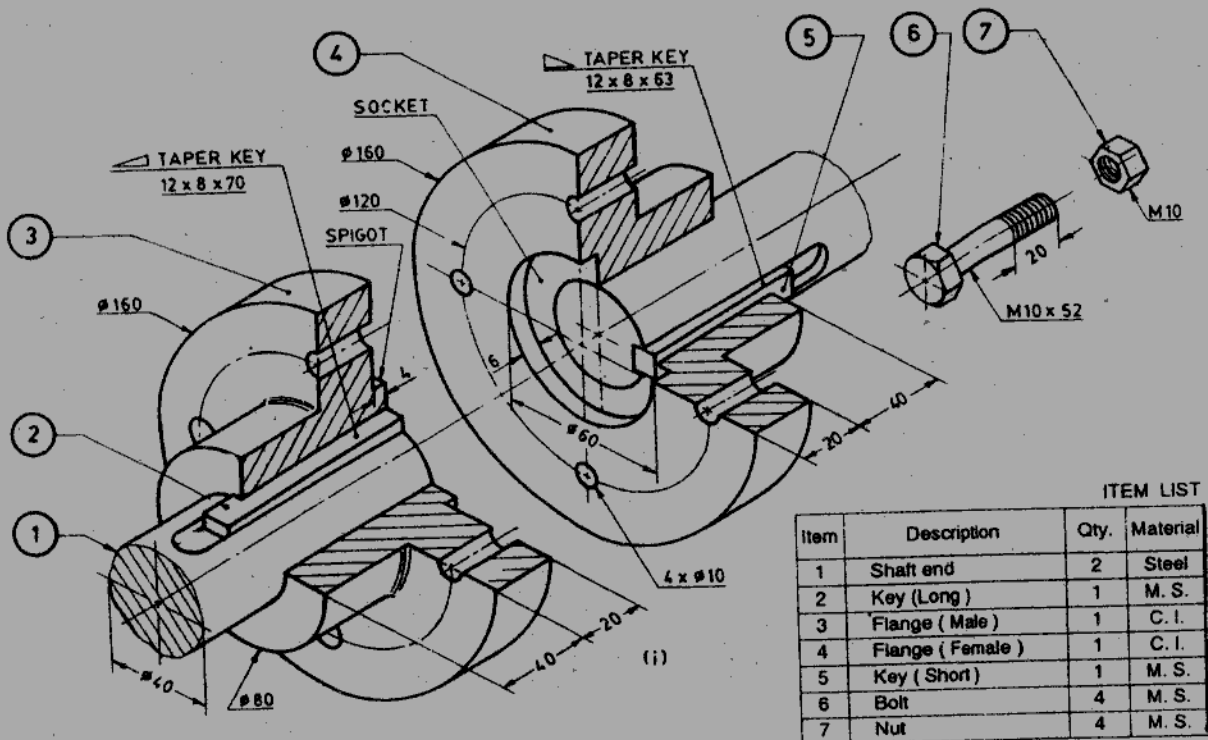

Figure 2
- IV Exploded isometric view of a unprotected type flanged coupling is shown in figure 2. Arrange the coupling and draw the top half sectional elevation and end view from left. 30